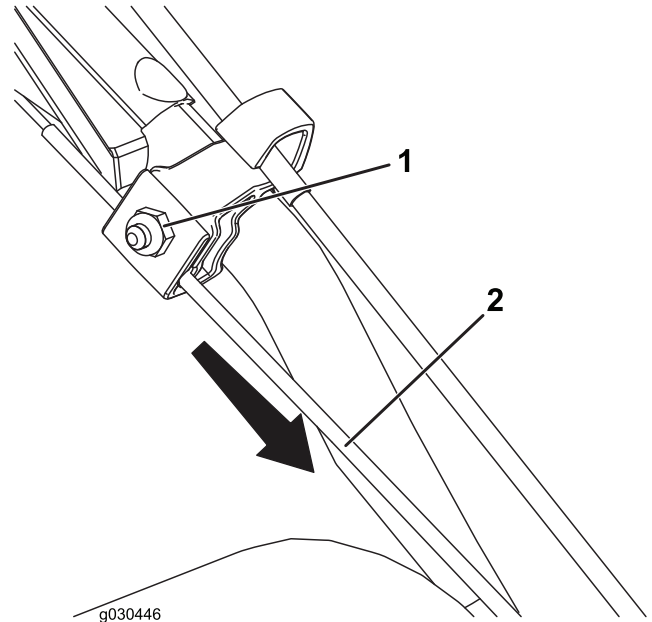

Figure 24
1. Loosen the nut on the upper cable clamp, but do not remove it (Figure 24).
2. Pull the cable down to remove most of the slack in the cable (Figure 24).
3. Tighten the nut (Figure 24).